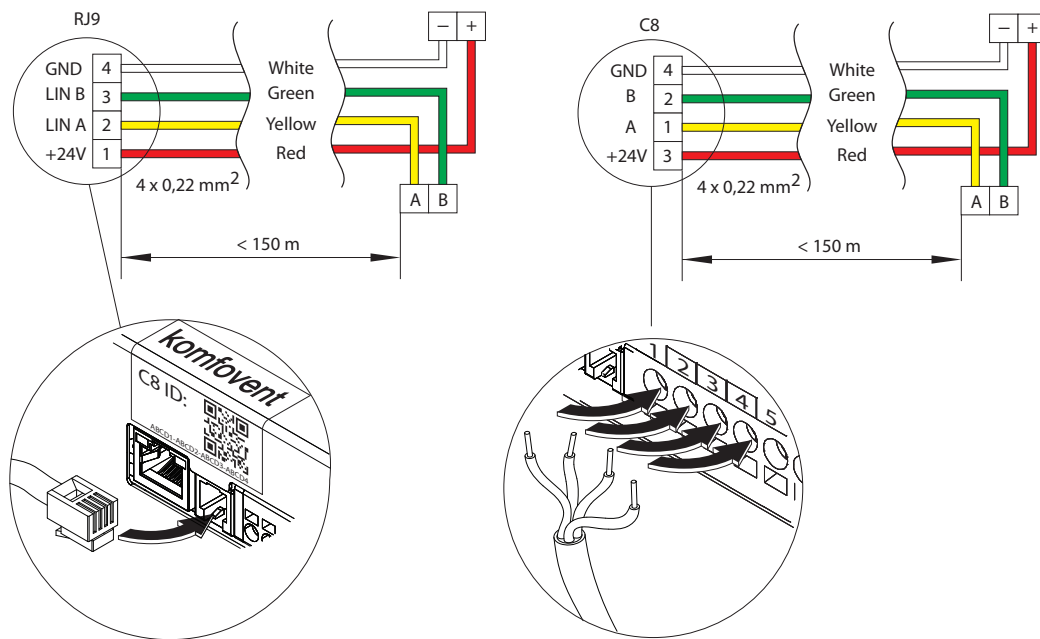

Fig. 14. Control panel cable wiring diagram
- Control panel (see. Fig. 14)
- **Outputs TG1 (6-8)** – Power supply and control signal for a water mixing valve actuator of the external heat exchanger or direct evaporation (DX) cooler/heater. Depending on the “External coil” type selected in the settings (see “Domekt User Guide”), the valve actuator will be controlled by a heating or cooling signal. An external pre-heater for frost protection of the CF heat exchanger may also be connected here.
Control panel cable is connected to the C8 main board as shown in Fig. 14. The exception is the R 200 V unit, where, if needed, the panel cable can be also connected to an external RJ10 connector.